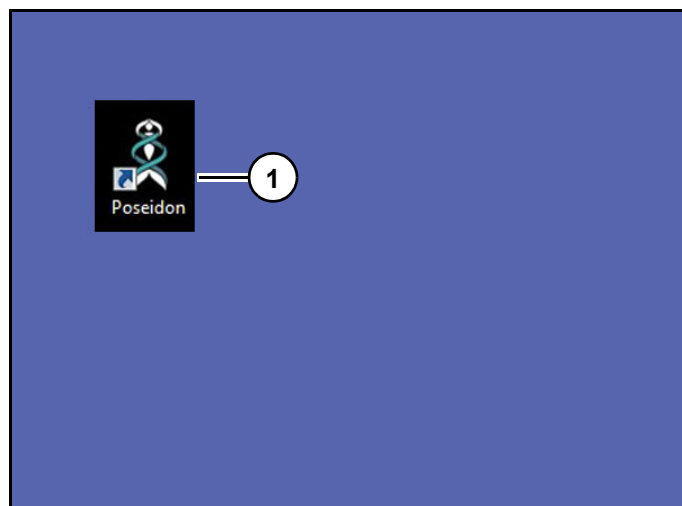

Figure 2
1. Double click "Poseidon program icon" (1) (Figure 2) on desktop.